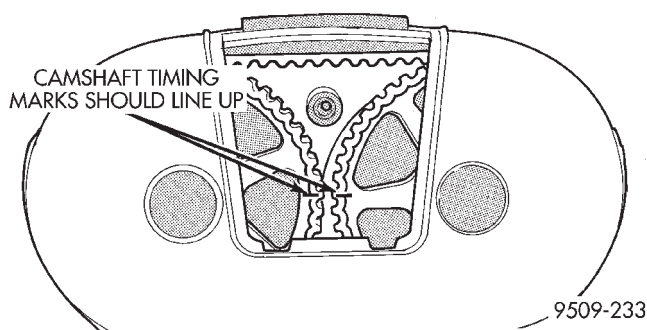

Fig. 50 Camshaft Timing Check
- (4) Check the timing marks on the camshaft sprockets, they should align with each other (Fig. 50).